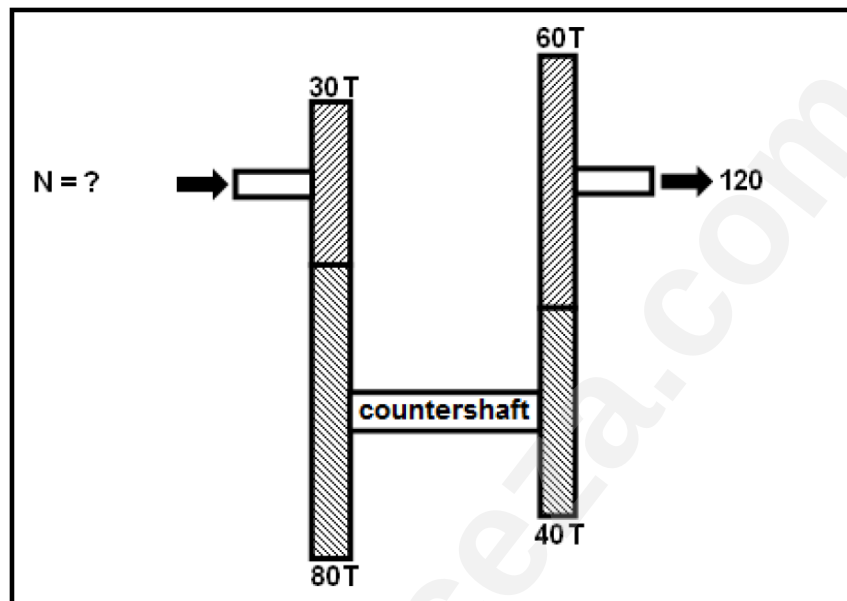

Figure 6.1
- 5.3 Calculate the power transmitted in kW. (4)
6. FIGURE 6.1 below shows a compound gear train. A driver gear on the axle of the electric motor has 30 teeth and meshes with a gear on the countershaft with 80 teeth.